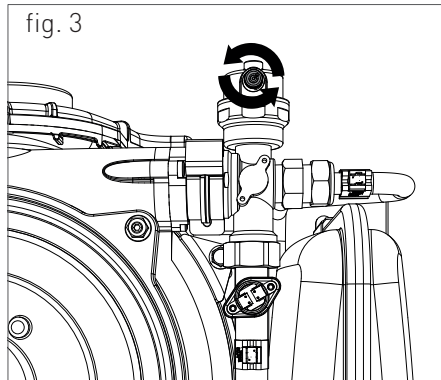

fig. 3
2. slightly loosen the cap of the air vent valve placed on top of the condensing exchanger (fig. 3) to release the air from the top of the system;
8. removal process. **WHEN THE WATER COMES OUT, CLOSE THE RADIATOR AIR VENT VALVES AND THE AIR VENT VALVE LOCATED IN THE UPPER RIGHT PART OF THE CONDENSING EXCHANGER (FIG. 3).**